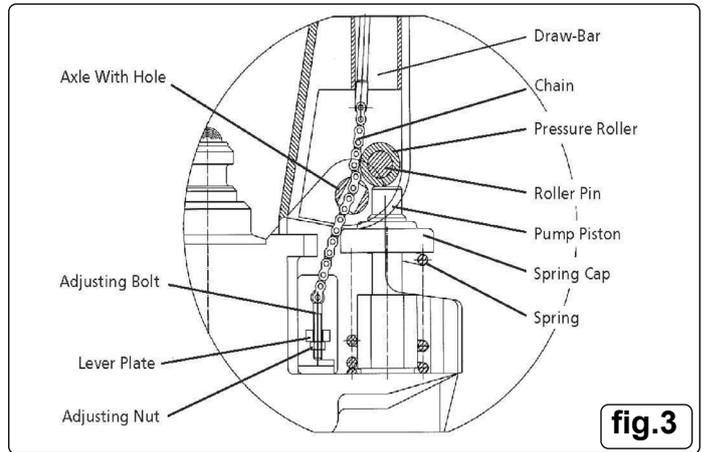

fig.3
- 4.2. Set the control lever on the handle to the LOWER position, then pass the adjusting nut, adjusting bolt through the hole in the axle (fig.3).
- 4.4. Set the control lever on the handle to LIFT position and then raise the lever plate (fig.3) with the pin (fig.1.2) and insert the adjusting bolt (fig.3) into the front slot of the lever plate.
- 5.5.7. Bring the truck to a stop where required and lower the load to the floor by pulling the operating lever to its highest position and holding it there until the load has settled to the floor. Alternatively the load can be lowered by pressing the foot pedal (fig.3.A).
- 5.5.10. Pump the handle up and down to lift the load. When the forks reach their maximum height the lifting action will stop even if you continue to pump the handle. As the load rises the stabilising pins attached to the legs either side of the wheels (fig.3.B) will begin to make contact with the ground. Above the height of 300mm the rear wheels are no longer in contact with the ground. This is a safety feature designed to prevent the moving of the load when the forks are raised to a high level.